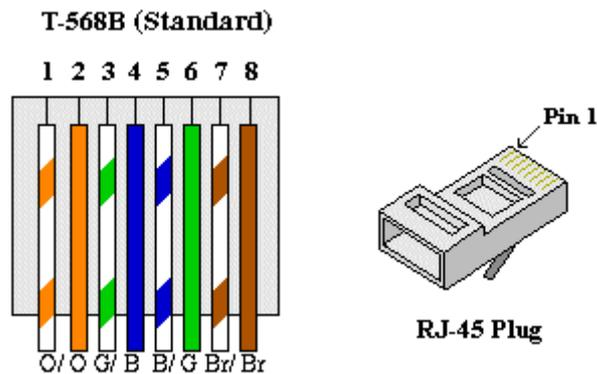

Figure 12. CAT5 (T-568B) wire Colours – Note: Wire colours may vary from those shown.
4. Check the wire colours inserted into the RJ-45 plug match those shown in Figure 12, with the Orange/white wire connected to pin 1.
5. Connect the wires to the audio switcher as shown in Table 1 and Figures 14 and 15. If the wire colours are in a different order to those shown in Figure 12 connect the wires to the relay module according to the pin position rather than the wire colour.